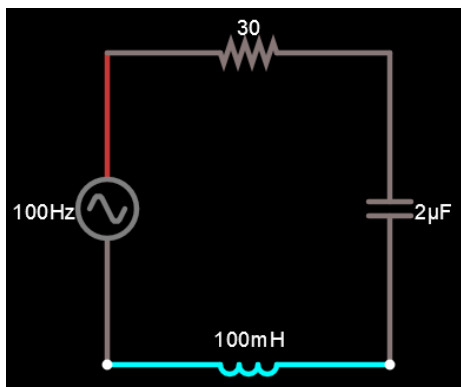

Figure 3: the completed series RLC circuit, showing the 0.1 Henry inductor on the bottom
1) Click *Circuits* in the top menu, then *A/C* then select *Capacitor*. Set the values as shown in Figure 3. The max (peak) voltage for V_{source} should now be **5 Volts**.
We are going to delete the bottom wire and replace it by an inductor L. To do that, move the mouse to the bottom wire and right click and select *delete*. Then, Click *Draw* in the top menu and select *Passive components* and select *Add inductor*. Place it in the place of the wire that we deleted by clicking and dragging from the bottom end of the capacitor to the bottom end of the voltage source. **Make sure that the inductor windings are as shown in Figure 3; if not then right click the inductor and select swap terminals**. Change its value to 0.1 (it knows the unit: H).